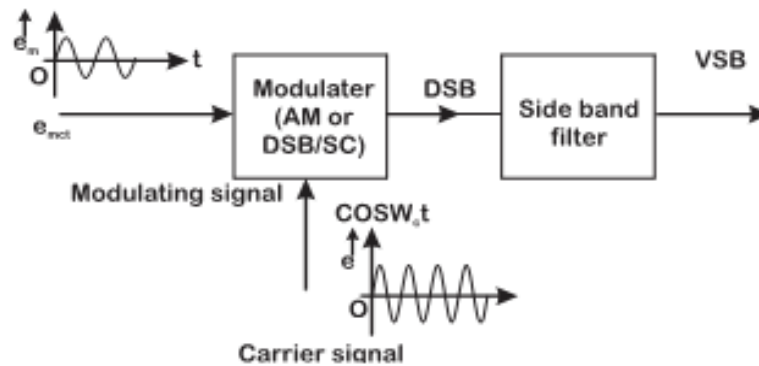

Fig.2.5 VSB Modulator
- ❖ The following fig 2.5(a) illustrates that how the VSB is generated.
- ❖ In the above Fig 2.5(a) if the carrier suppression is wanted then the AM modulator is replaced by balanced modulator.